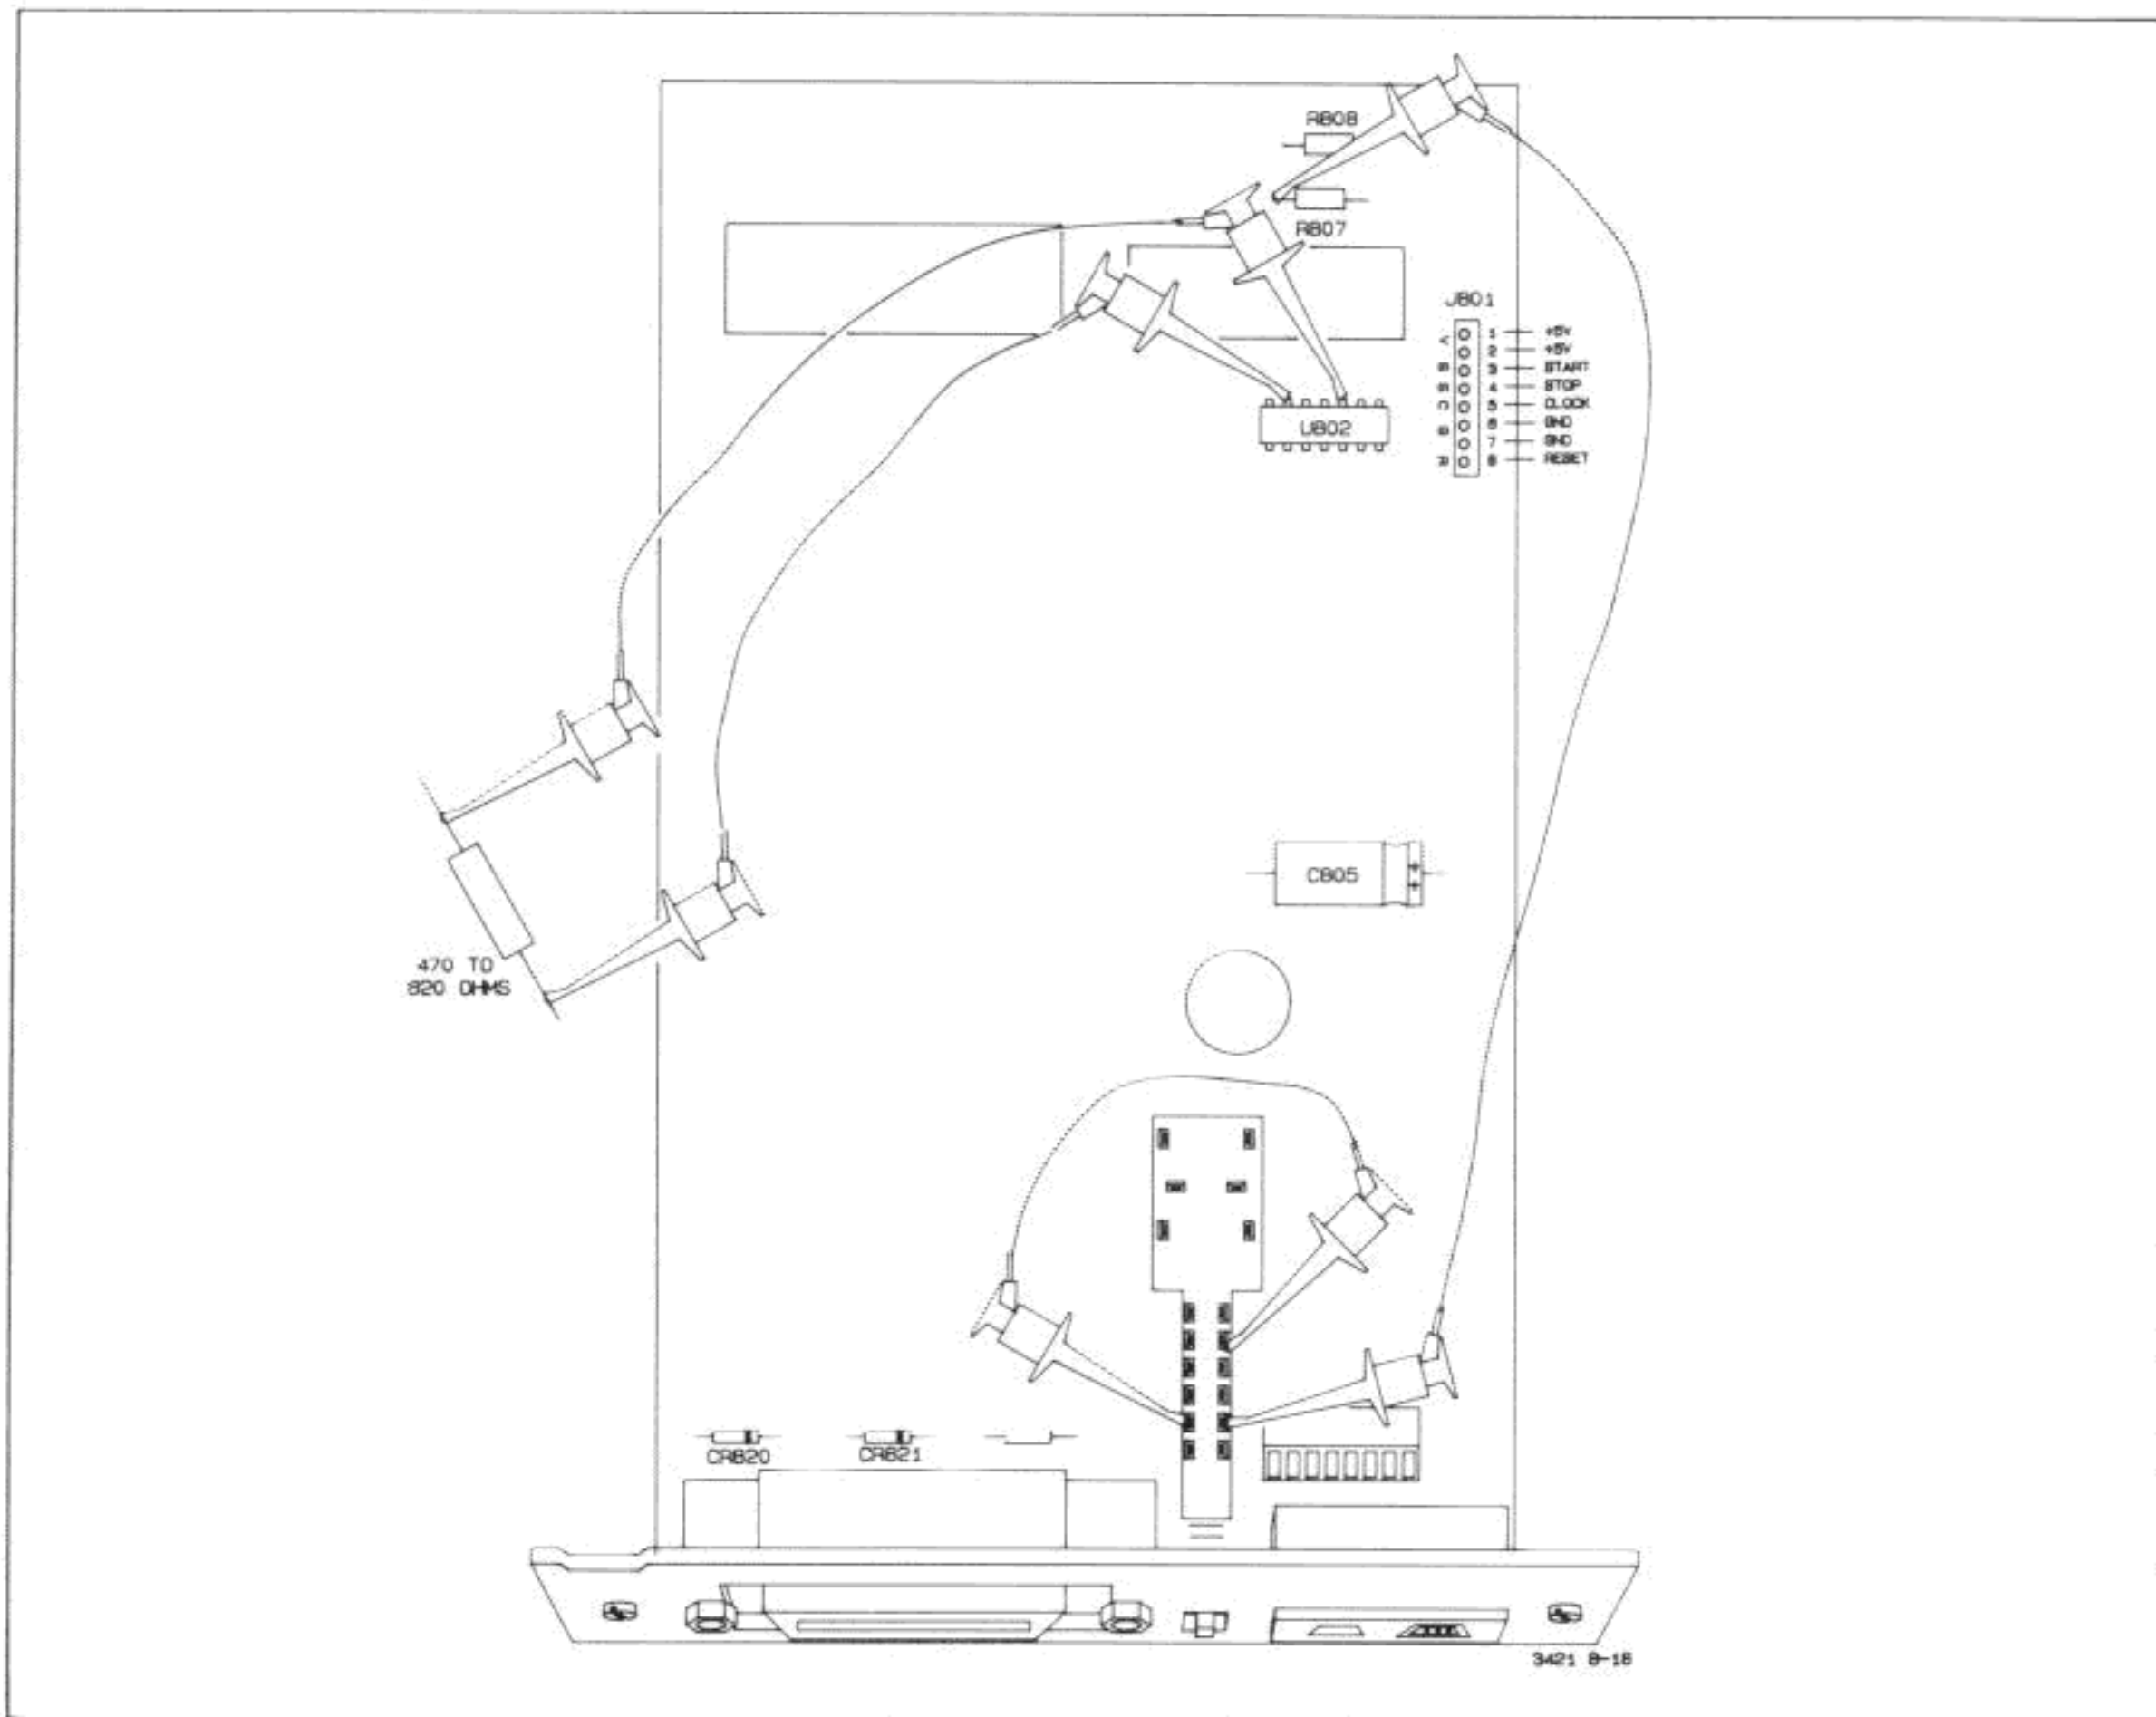

Figure 4-8-18. Jumper Configuration for SA Test #2
c. Refer to Figure 4-8-18 and perform the following jumper configuration.